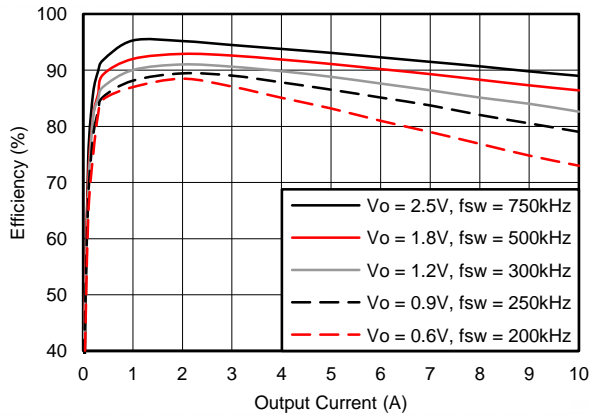
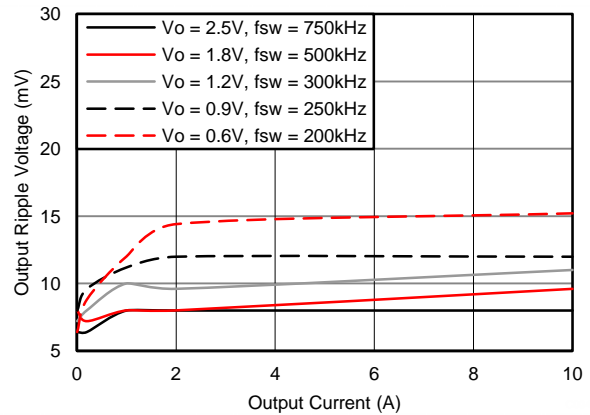
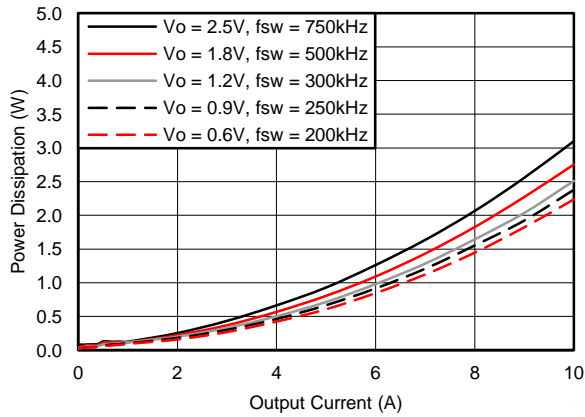

Figure 13. Efficiency vs. Output Current
Figure 14. Voltage Ripple vs. Output Current
Figure 15. Power Dissipation vs. Output Current
- (1) The electrical characteristic data has been developed from actual products tested at 25°C. This data is considered typical for the converter. Applies to Figure 13, Figure 14, and Figure 15.